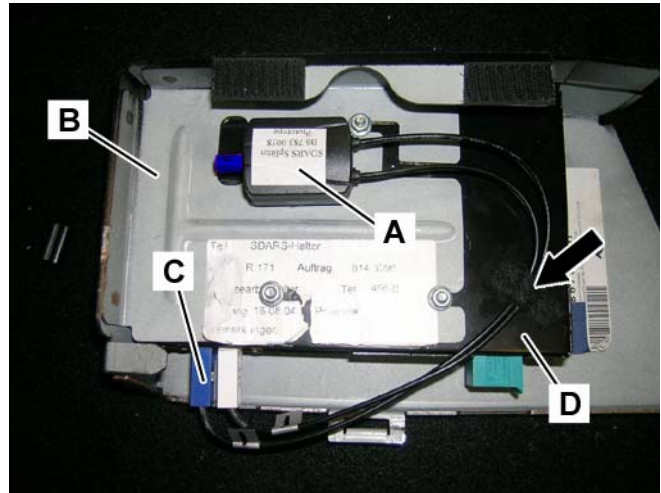

Figure 16
1. Peel off the protective backing from the adhesive side of the SDARS splitter (A, Figure 16).
2. Affix the SDARS splitter (A, Figure 16) to the face of the bracket (B, Figure 16) at the position as seen in (A, Figure 16).
3. Connect the white and blue connectors of the SDARS splitter (A, Figure 16) to the like-color connectors of the SDARS control module (C, Figure 16).
4. Secure the cables of the SDARS splitter (A, Figure 16) with felt tape (Arrow, Figure 16) on the bracket (B, Figure 16)